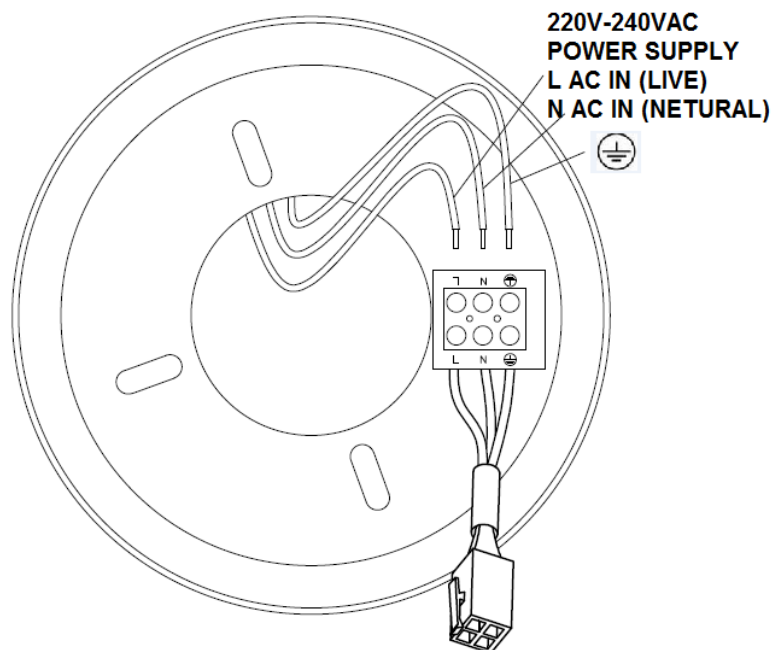

Fig. 4
- Complete the electrical wiring using the diagram below (Figure. 4).
PREPARE AND COMPLETE THE ELECTRICAL WIRING --- WIRING DIAGRAM (Fig. 4)